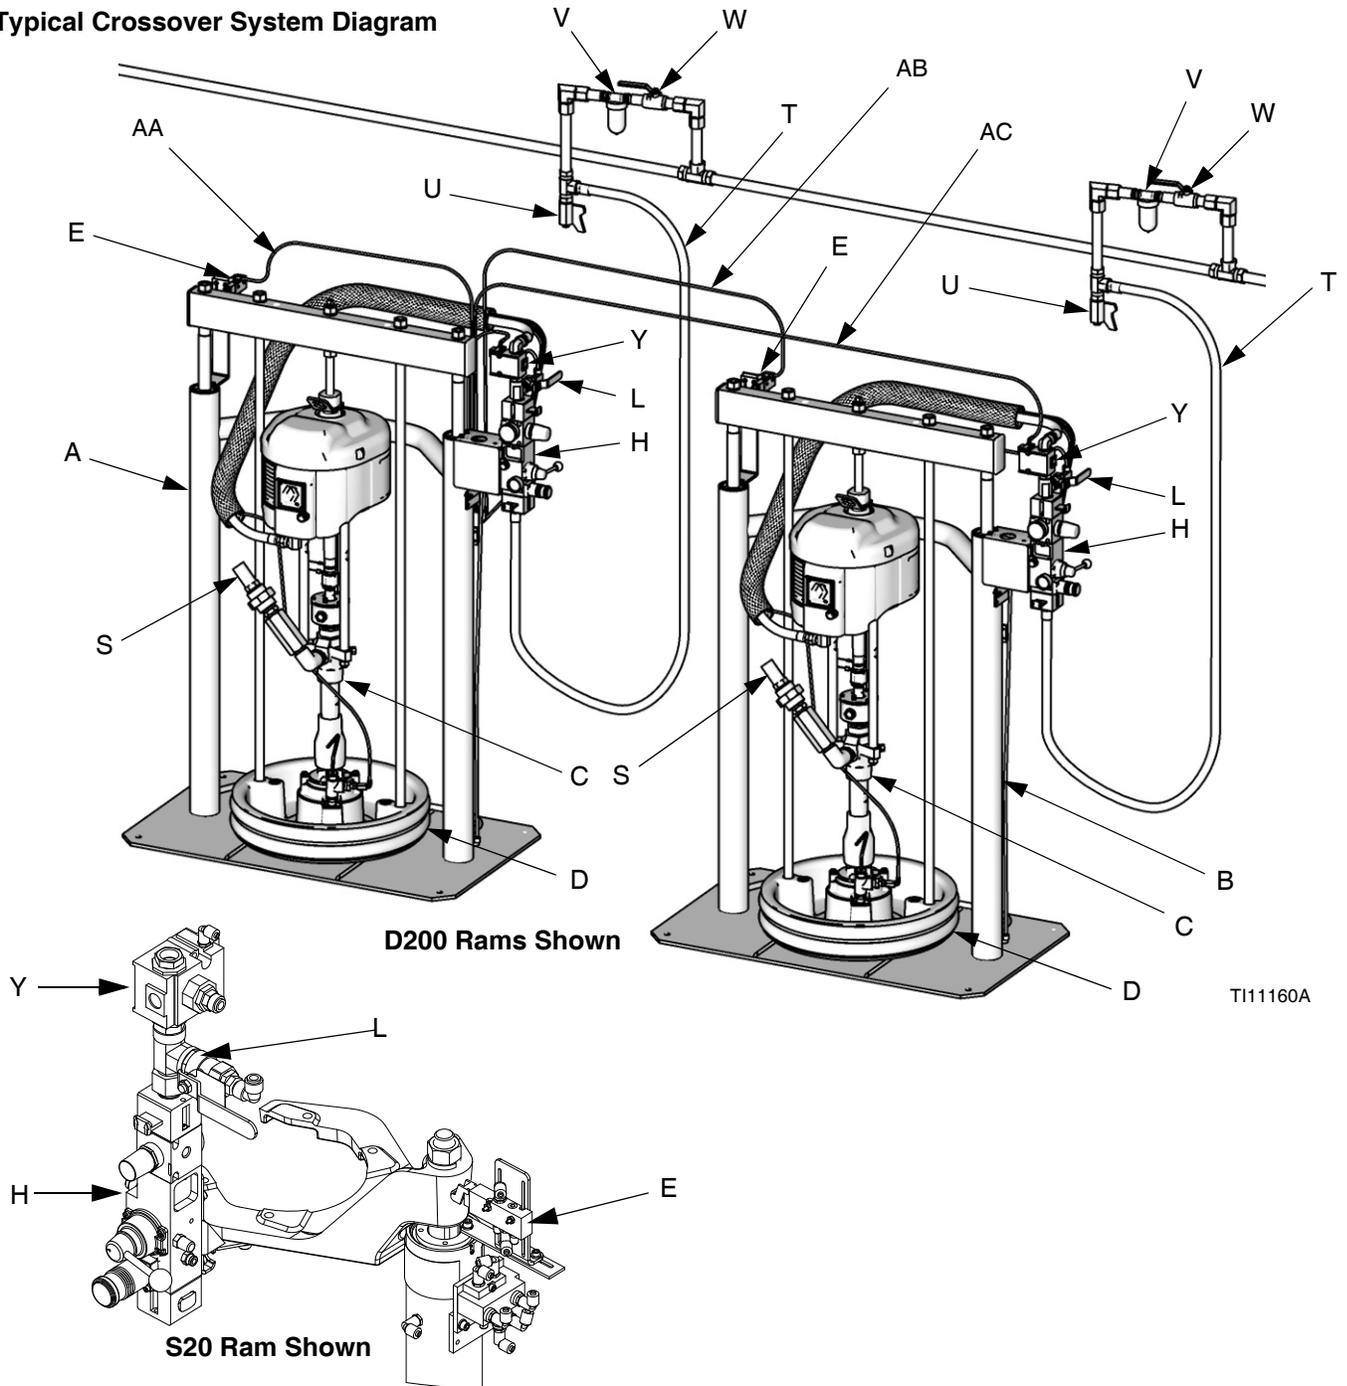

FIG. 1: Component Identification, Pneumatic Crossover
FIG. 1. shows a pneumatic crossover system. Refer to manual 313526 (supplied) for ram installation and operating instructions. The pneumatic crossover operates as follows:
Key to FIG. 1:
- **Main air slider valve (BA):** turns air on and off to the system. When closed, the valve relieves pressure downstream.
- **Ram air regulator (BB):** controls ram up and down pressure and blowoff pressure.
- **Ram director valve (BC):** controls ram direction.
- **Exhaust port with muffler (BD)**
- **Air motor regulator (BE):** Controls air pressure to motor.
- **Air motor slider valve (BF):** turns air on and off to the air motor. When closed, the valve relieves air trapped between it and the air motor. Push the valve in to shutoff. **Remote DataTrak:** The air solenoid (Y, FIG. 1), the air motor slider valve (BF), and the main air slider valve (BA) must be open for air to flow. (See Remote DataTrak Setup section in Supply Systems operation manual 313526.)
- **Blowoff button (BG):** turns air on and off to push the platen out of an empty drum.
See FIG. 1.
- The Bypass/Prime ball valves (item L in FIG. 1, page 7) are closed
The tandem controls act to allow only one of the two pump air motors to run at any given time, unless the pilot valve is bypassed. To manually activate the air motor, open the bypass ball valve (FIG. 1, item L). Other system functions are not effected by the tandem controls.
If the pump being primed is not the active pump, it will be necessary to activate the air motor by opening the bypass ball valve (FIG. 1, item L).